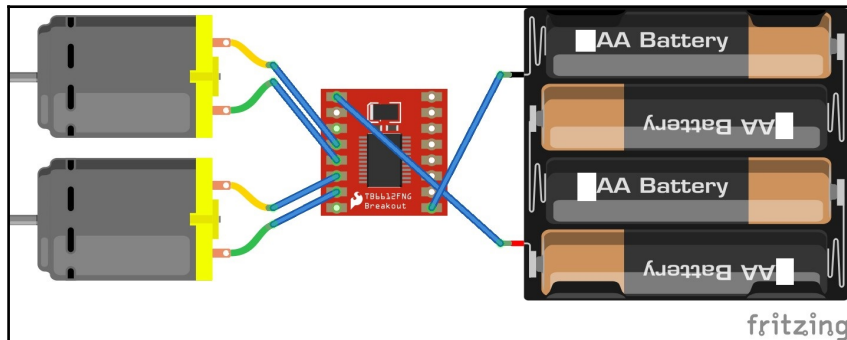

Figure 2.33: Connecting 4 x AA battery to the motor driver board
2. Then, connect the output from the 4 x AA battery to the motor driver board (Figure 2.33):